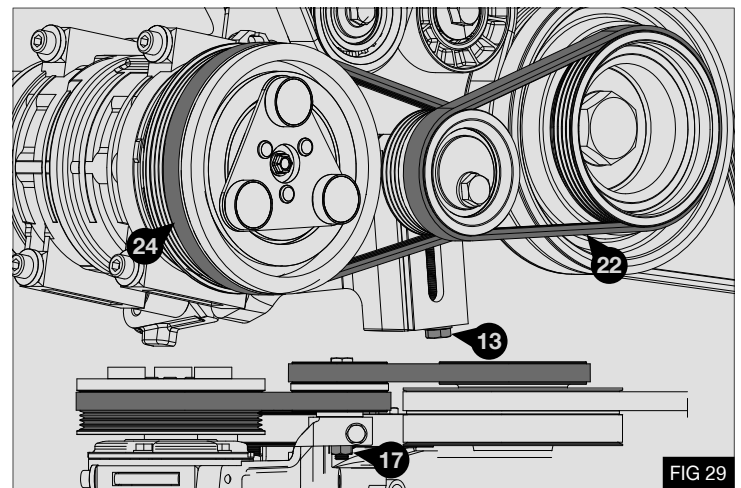

FIG 29
3. Fit drive belt (24) between compressor and tensioner pulley - Fig 29
4. Fit drive belt (22) between tensioner pulley and crank pulley
5. Using draw bolt (13) apply tension to belts, once correct tensions have been achieved (see table) lock pulley by tightening M10 nut (17) - Fig 29